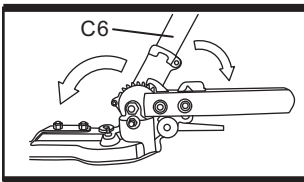

Fig. 16c
c). Move the hedge trimmer shaft (C6) with the other hand until the desired angle is adjusted. (See Fig. 16c)